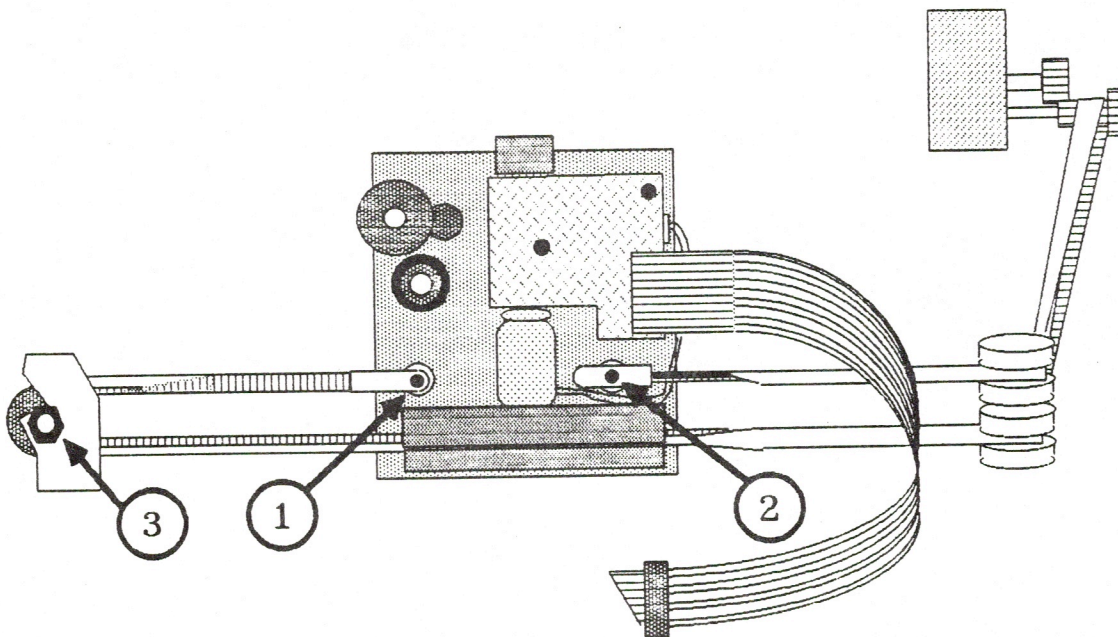

Figure 4
10. Lift the near edge of the carriage assembly up and rest the assembly on its print-head side, so that its underside is facing you. (See Figure 4 for a view of the underside of the carriage assembly.)
11. Remove the screws from the two ends of the belt (Figure 4, #1 and 2).